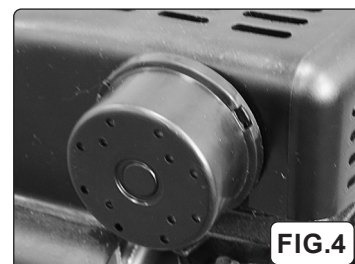

FIG.4
- 4.6. If it is not already fitted, screw the air filter holder into the inlet port (fig.4).
- b) Remove the air filter element by unscrewing the filter holder (fig.4) and prising open the holder. Clean it by blowing through with an air line at low pressure, from the clean side. Alternatively, wash it in soapy water, rinse and dry. **DO NOT** operate the compressor without the filter as foreign bodies or dust could seriously damage the pump.